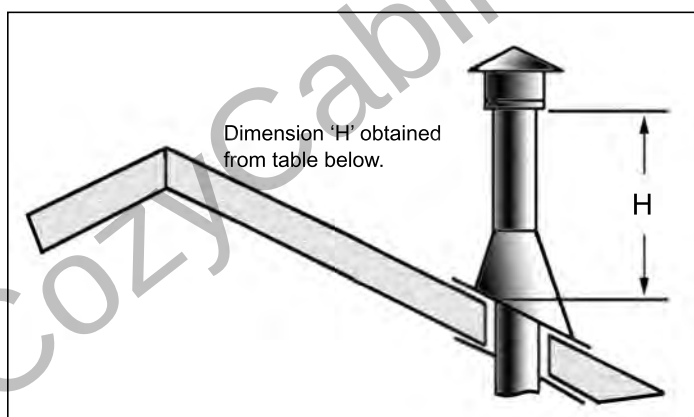

Figure 35. Height of Vertical Termination;
- STEP 8.** Continue to add pipe sections until the height of the vent cap meets the minimum code requirements. Refer to Figure 35 and Table 8. Note that for steep roof pitches, the vent height must be increased. In high wind conditions, nearby trees, adjoining roof lines, steep pitched roofs, and other similar factors can result in poor draft, or down drafting. In these cases, increasing the vent height may solve the problem.
Table 8. Minimum 'H' for Figure 35.